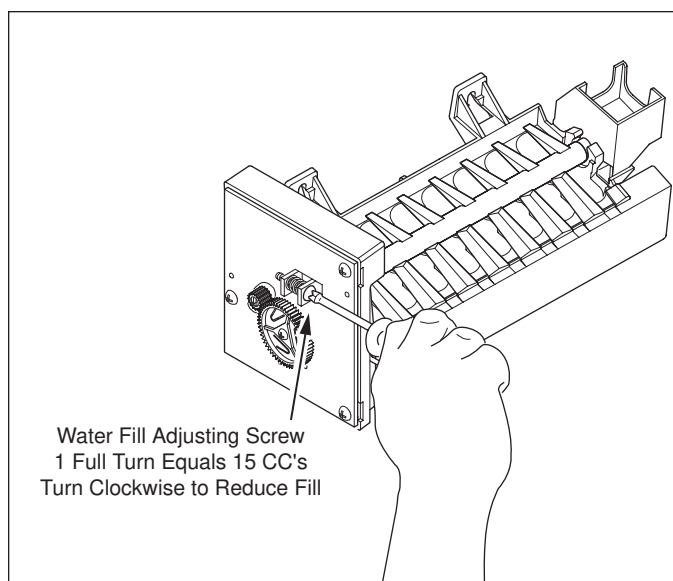

**Figure 6-13. Manually Start Icemaker**
2. With a flat-blade screwdriver, turn the drive gear counterclockwise until the holding switch is activated, completing the circuit to the drive motor (this will be about a 1/8 turn). (See Figure 6-13) The icemaker will then complete its cycle automatically.